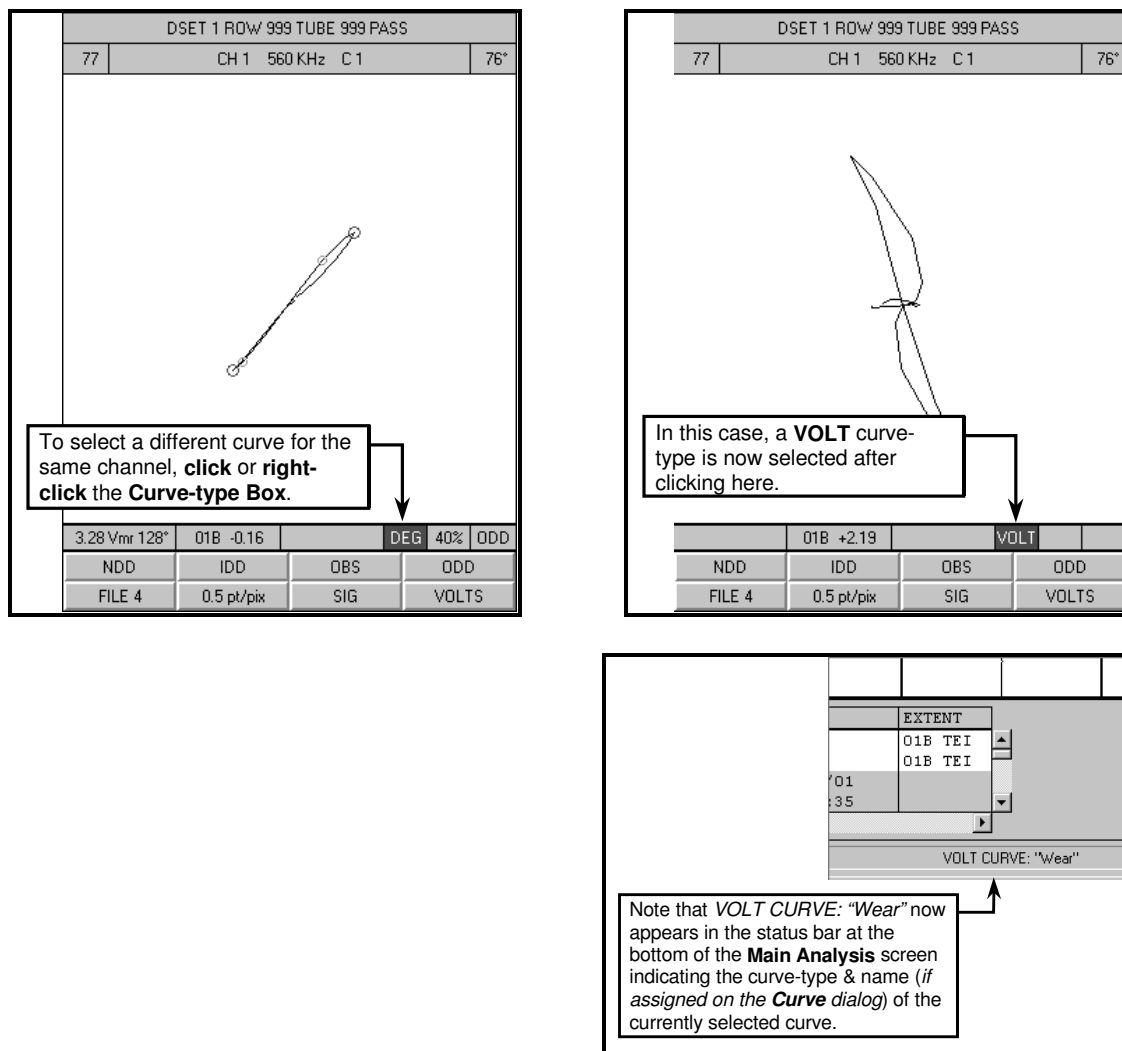

Figure 4-9. Selecting Different Correlation Curves for the Same Channel
To select and use a different correlation curve when more than one (1) curve is setup for the same channel (see Figure 4-9):